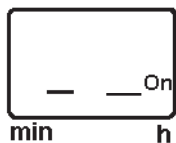

Fig. 19 Green segment left & right are "On"/ Ignition switch closed ("on").
- When switching on the ignition switch, the left-hand segment in the display window lights up (Fig. 19).